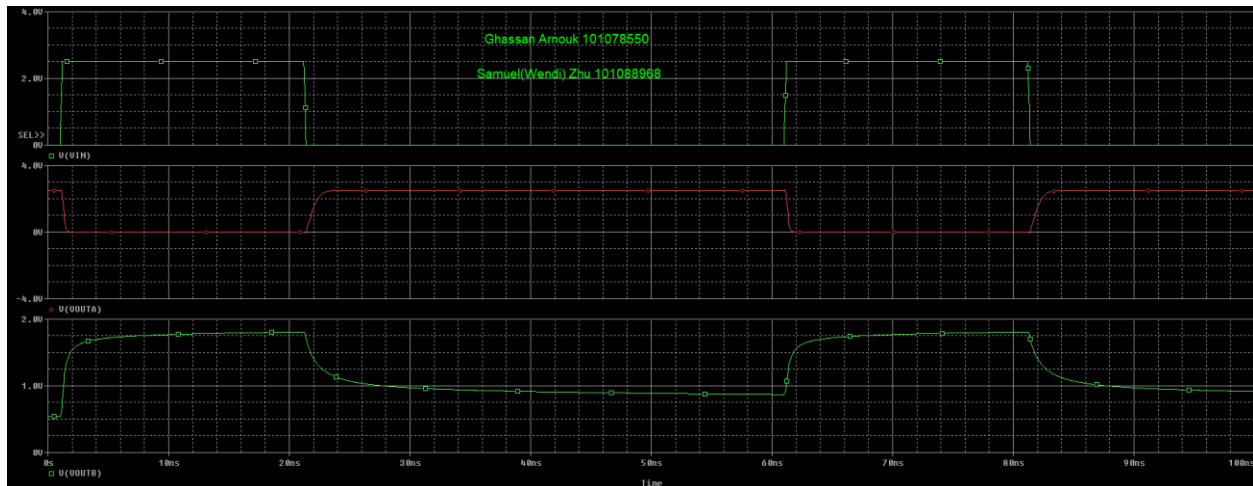

Figure 2 - Simulation for V_{in} , V_{outA} , and V_{outB}
Figure 2 below shows the simulation of the output waveforms for circuits (A) and (B). The circuit (A) is working properly as an inverter. When the input is high, the NMOS pulls the output voltage close to ground. When the input is low, the PMOS pull the output voltage close to V_{DD} . On the other hand, the circuit (B) is working with poor output swing as a buffer. This is due to the fact that PMOS could not pull the output voltage down close to ground and the NMOS could not pull the output voltage up because of the threshold voltages.